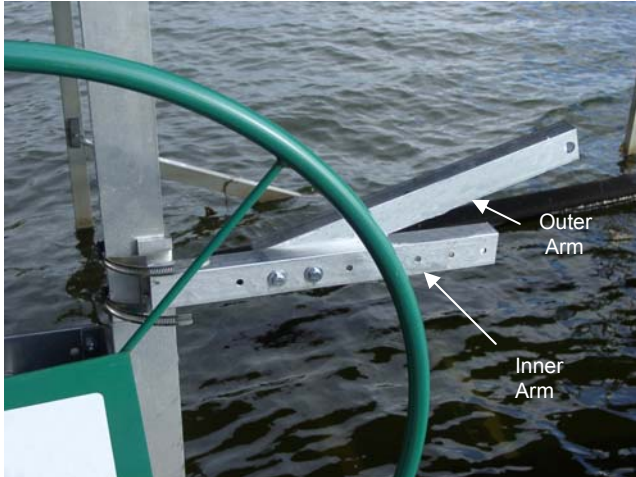

FIG 10: Left Winch Post Installation View
3. Bolt the outer arm **behind** and to the inner arm using the (2) 5/16" x 3 1/2" bolts, nuts, and washers. See Fig. 10. The pivot hole on the outer arm should be at least 3", but not more than 8" from the outer edge of the winch wheel.